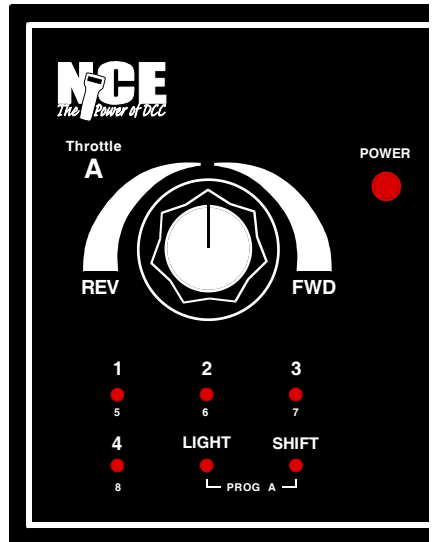

Figure 5
- ❑ Press and HOLD DOWN both of the small buttons that are labeled PROG A on the left (Throttle A) side of the TWIN (Figure 5). Hold the buttons down until the Power light goes OFF.